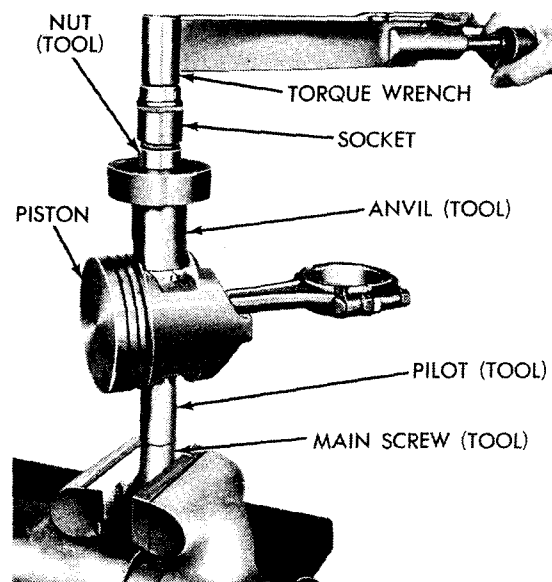

Fig. 40—Testing Piston Pin Fit in Connecting Rod
(12) Place assembly in a vise (Fig. 40).
(13) Attach torque wrench to nut and tighten up to 15 foot-pounds. If the connecting rod moves downward on piston pin, reject this connecting rod and piston pin combination. Obtain a connecting rod with proper small end bore diameter and repeat the installation and tightening procedure.
(14) If connecting rod does not move under 15 foot-pounds, interference fit of piston pin in connecting rod is satisfactory.